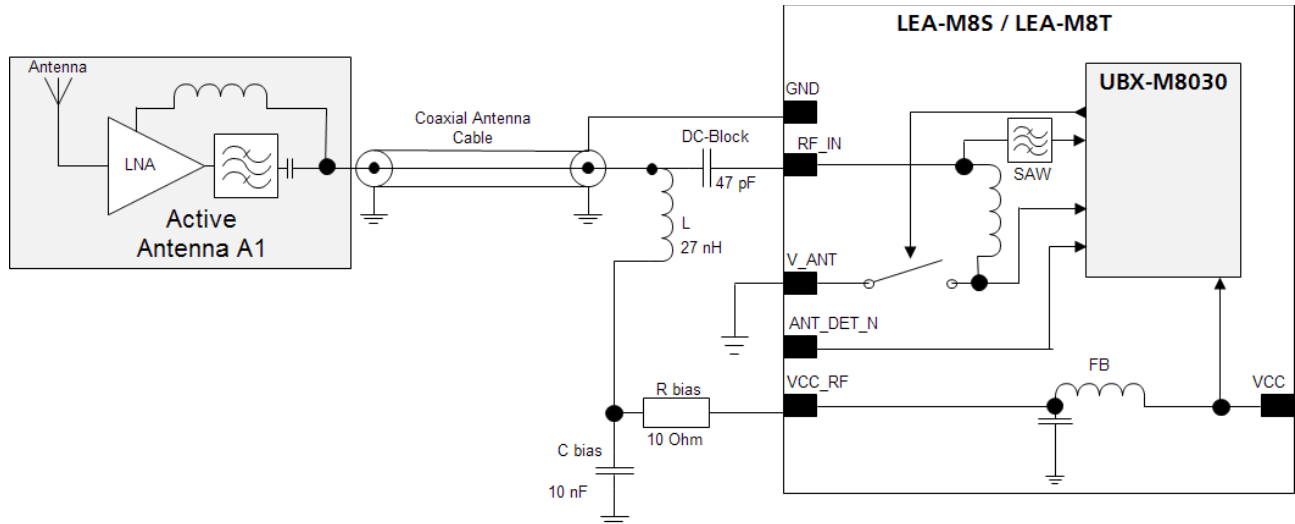

Figure 9: Active antenna design, external supply from VCC_RF
V), they can use the filtered supply voltage **VCC_RF** output to supply the antenna (see Figure 9). This design is used for modules in combination with active antenna.